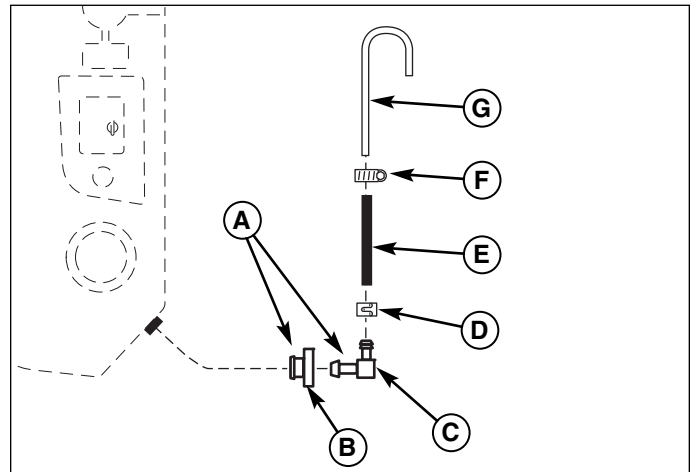

Figure 1. Vent Hose Routing
3. Spray or dip soapy water (use a 1:10 solution of dish soap to water) on the leading edge of the grommet (B, Figure 1) Carefully install the grommet into the tank.
4. Spray or dip soapy water (use a 1:10 solution of dish soap to water) on the leading edge of the elbow fitting (C).
6. Slide the hose clamp (D) onto the fuel tank vent hose (F). Install the fuel tank vent hose onto the elbow and secure with the hose clamp.
7. Insert 3/4" (1,9cm) of the long end of the fuel tank vent tube (G) into the fuel tank vent hose and secure with the #4 hose clamp (F).